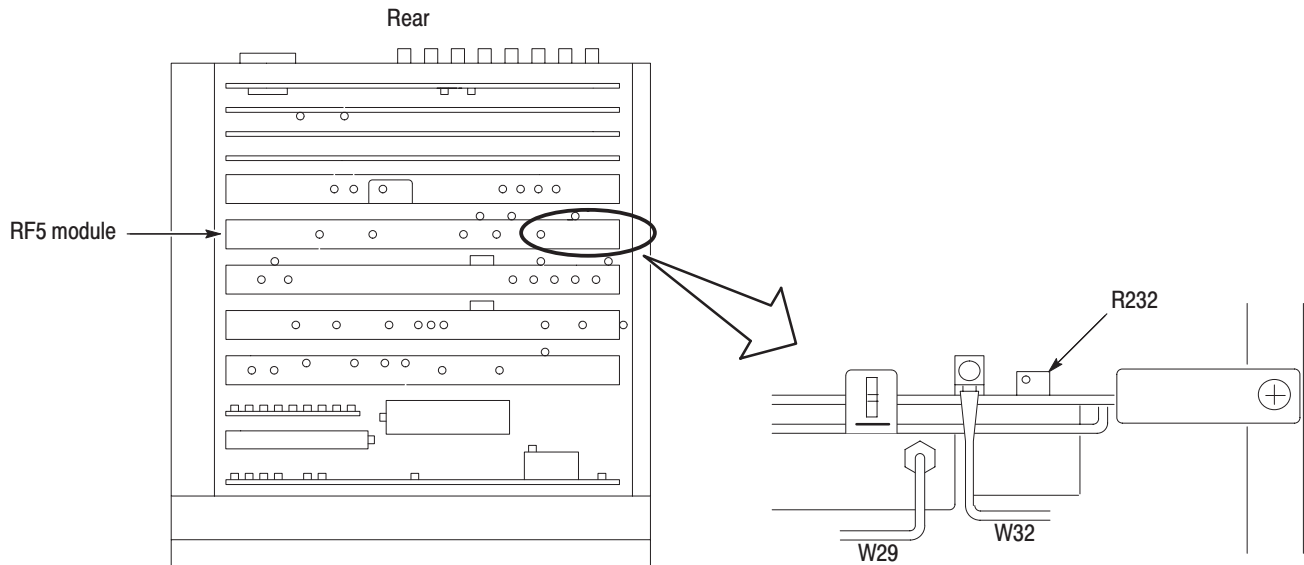

Figure 5-10: R232 location (top view of the card cage)
2. *Adjust the reference frequency:* Adjust R232 on the A500 step amplifier/oscillator interface board in the RF5 module so that the frequency counter reads 10 MHz \pm 0.1 Hz. See Figure 5-10 for the R232 location.